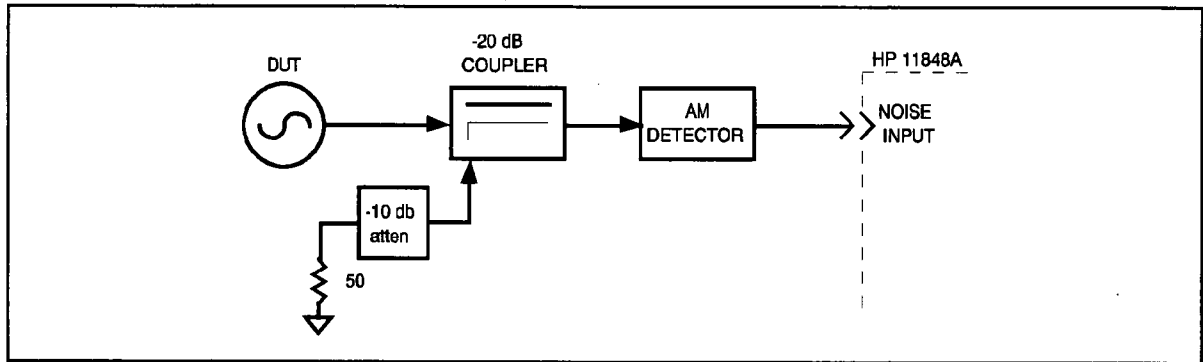

Figure 3-15. AM Noise Measurement Setup Using Single-Sided-Spur
1. Connect circuit as shown in figure 3-15, and tighten all connections.